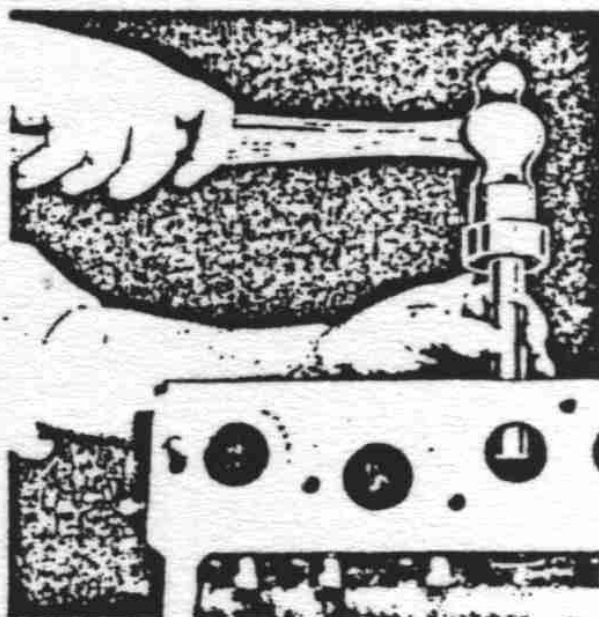

FIG. 20 INSTALLING VALVE GUIDES
(2) The valve guides are installed with a replacer or a driver as shown in (Fig. 20). Taking a piece of half-inch round stock 6" long and turning down one end to $\frac{3}{8}$ " diameter 2" long will make a suitable driver.